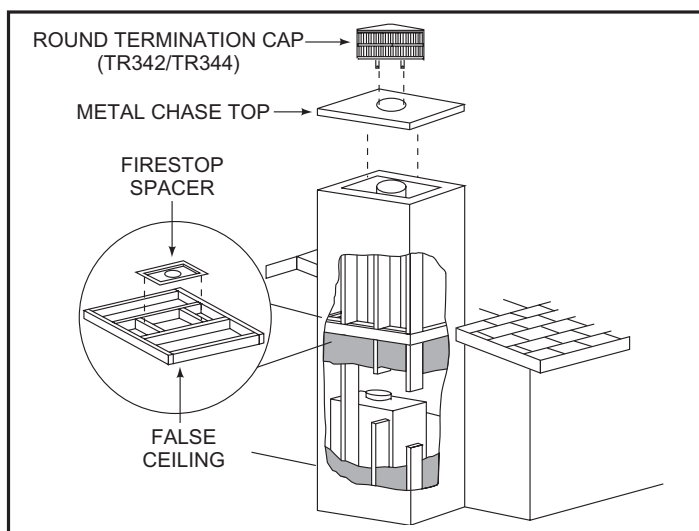

Figure 20A - Chase Assembly
- 4) In cold climates, the walls of the chase should be insulated to the level of the false ceiling as shown in Figure 20A on page 20. This will help reduce heat loss from the home around the fireplace.